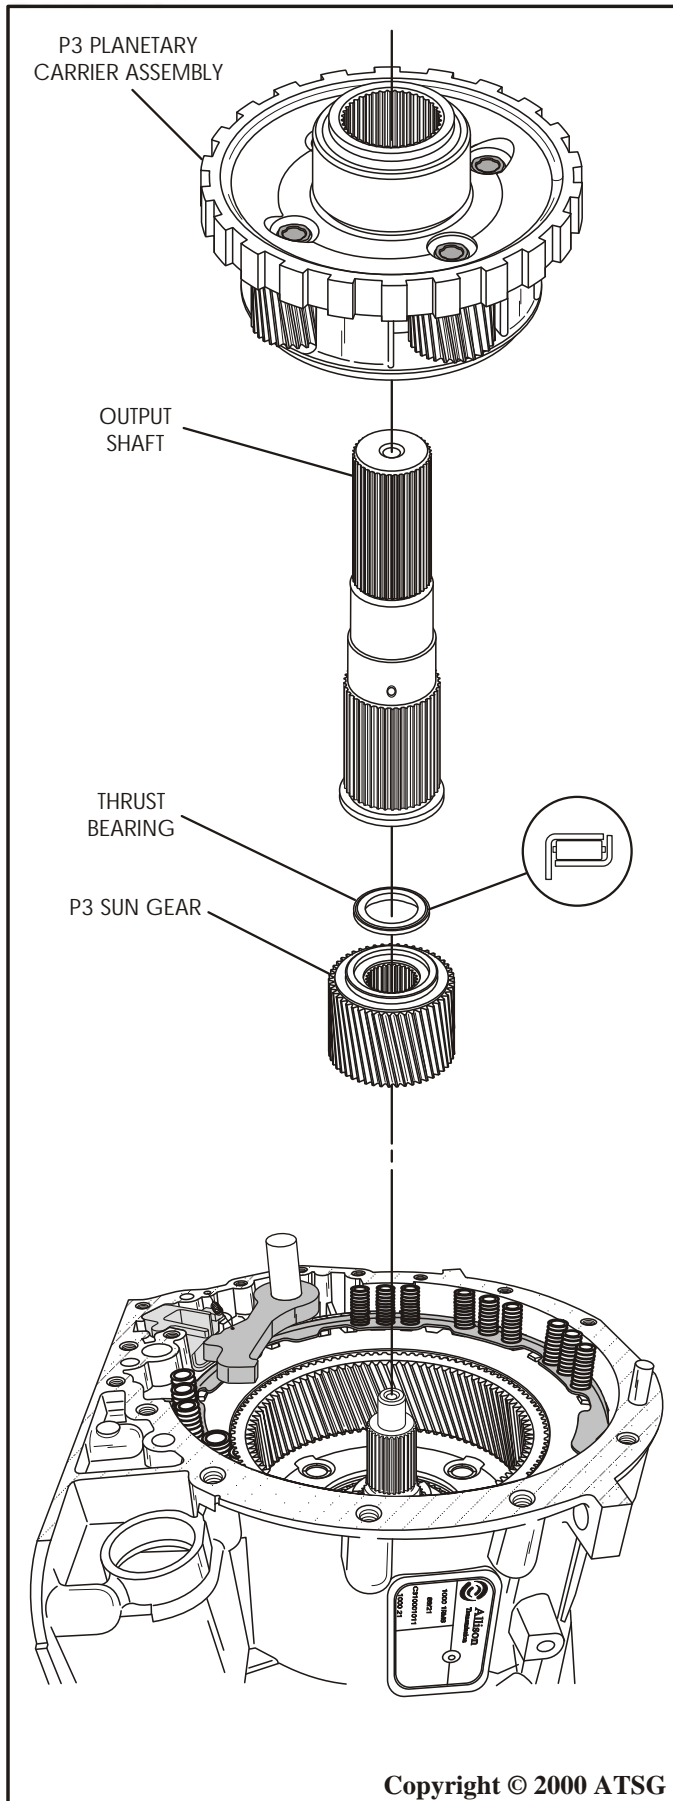

Figure 160
32. Install the P3 sun gear and thrust bearing onto main shaft in direction shown in Figure 160.
33. Install output shaft through carrier, as shown in Figure 160, and install assembly into case.